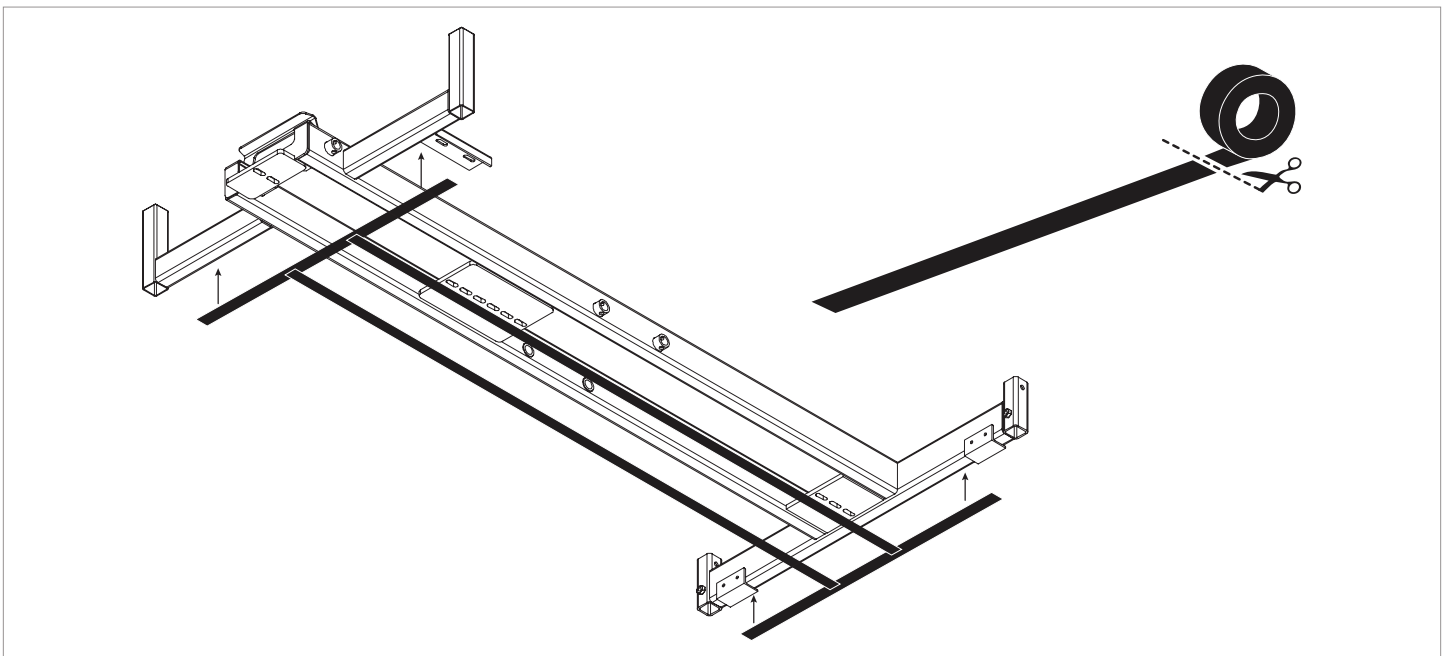

Figure 2.D
**Step 2** — Apply the polyethylene foam to the bottom of the lift system, as shown in (Figure 2.D). This is used to isolate the system from vibrations, as well as insulate the steel lift system from the aluminum bed/box.